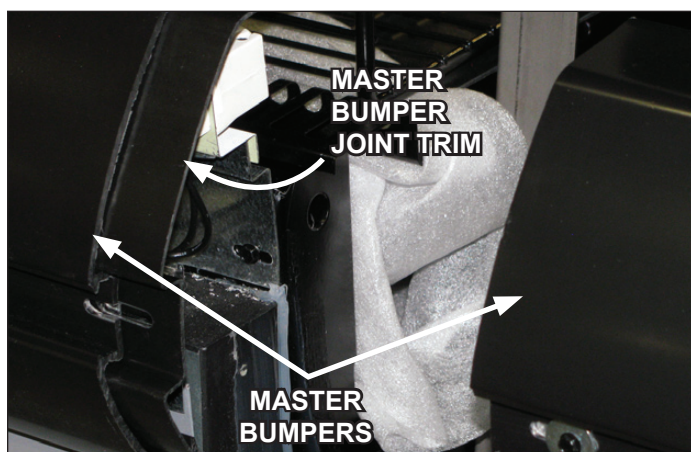

Fig. 3 Master bumpers and joint trim
1. To align the master bumpers, slide master bumper joint trim in between adjoining master bumpers. (Fig. 3).